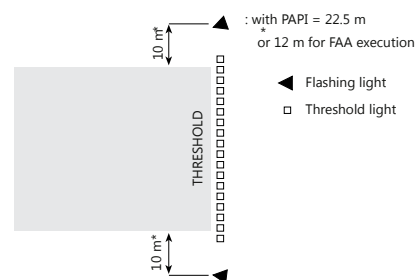

Fig. 7 RTILS (ICAO) or REILS (FAA)
- as runway threshold identification (RTILS or REILS) lights (Fig. 7) all or not in combination with sequenced flashing lights